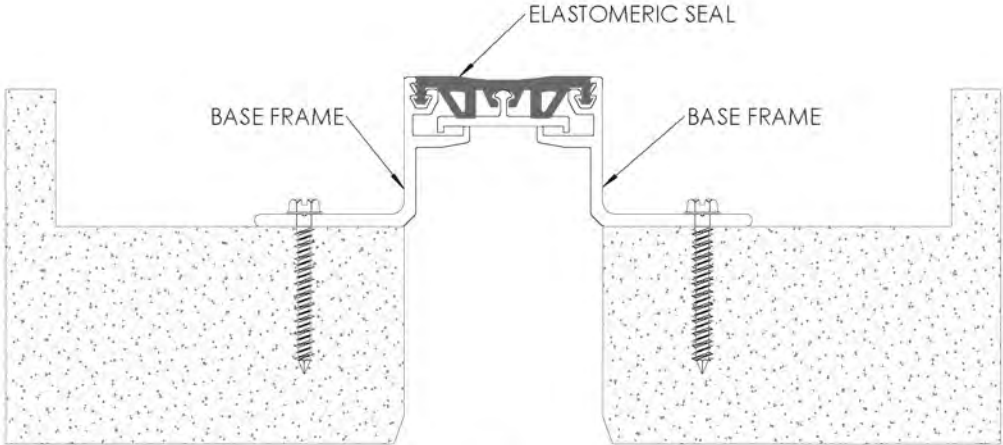

FIGURE 4
- 4. Position the elastomeric seal into position and push the seal bulbs into the base frame top channels as shown. Make sure the bulbs are seated all the way into the channel. Also, make sure the bottom center channel in the seal is pushed over the protrusion on the slide plate (not required on 1” joint sizes). **See Figure 4**